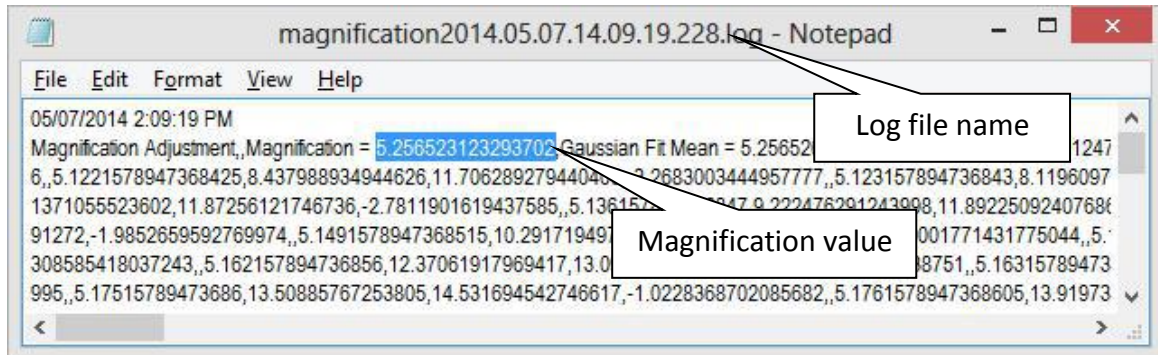

Figure 3 Magnification Log
5. Once done perform full CDnA, go to path C:\Program Files\AXI System\v810\<REV>\log\calib\Magnification, check for latest low magnification log file. Sample as Figure 3. (# File name indicate as *magnificationYYYY.MM.DD.HH.MM.SS.XXX.log*)